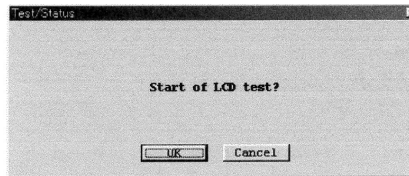

Fig.77
- ③ To diagnose the LCD display, click on "OK" button. A message box like the one shown in Fig. 77 then appears.